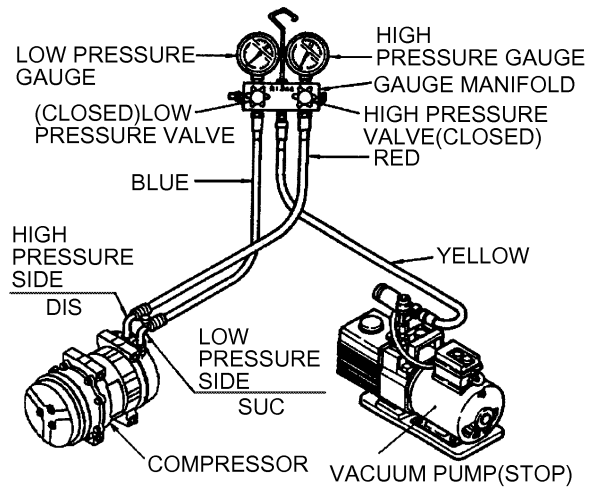

Fig. 25-25
(1) Connecting gauge manifold (See Fig. 25-25)